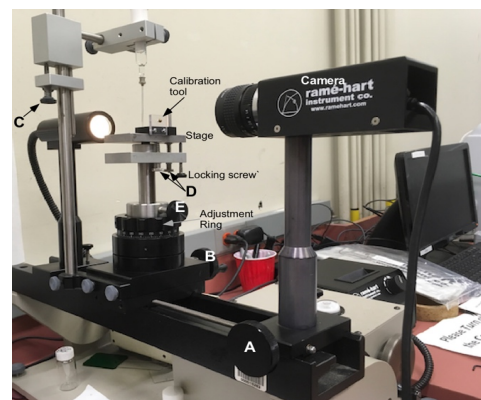

Figure 1 Contact Angle Goniometer
4. Make sure the camera stand is locked to the rail and that the stage is unlocked and can move by turning knob A, Figure 1.
17. Use knob A, Figure 1, to focus the image of the front edge of the substrate.
- a. To Level the stage, loosen the black locking screw on the bottom of the stage and use the right knob D to set the tilt, Figure 1. You can watch the Youtube video of how to level the stage, <https://www.youtube.com/watch?v=scIFT2c-8pg>